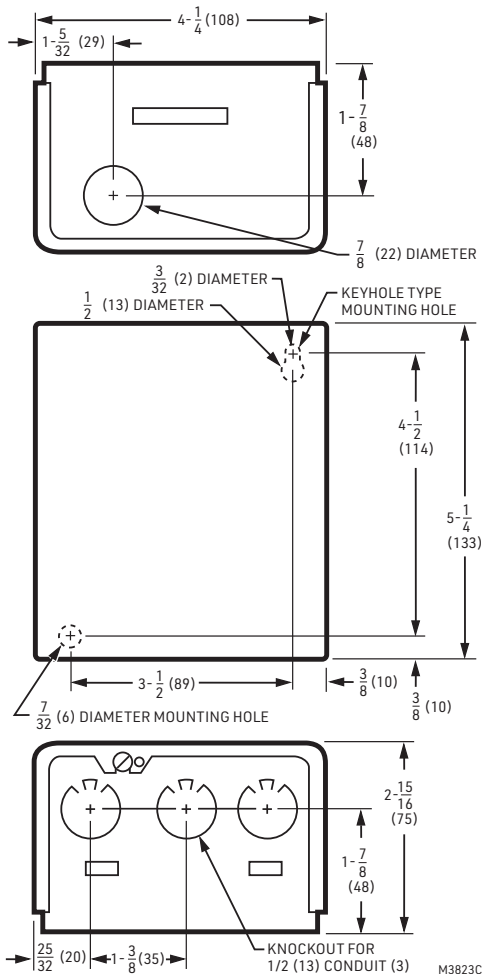

Fig. 1. Approximate mounting dimensions in in. [mm].
1. Position the relay and mark the mounting holes. See Fig. 1.